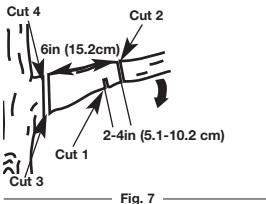

Fig. 7
- Make the first cut six inches from tree trunk on the underside of the limb. Use the top of the guide bar to make this cut. Cut a third of the way through the diameter of the limb (Fig. 7).